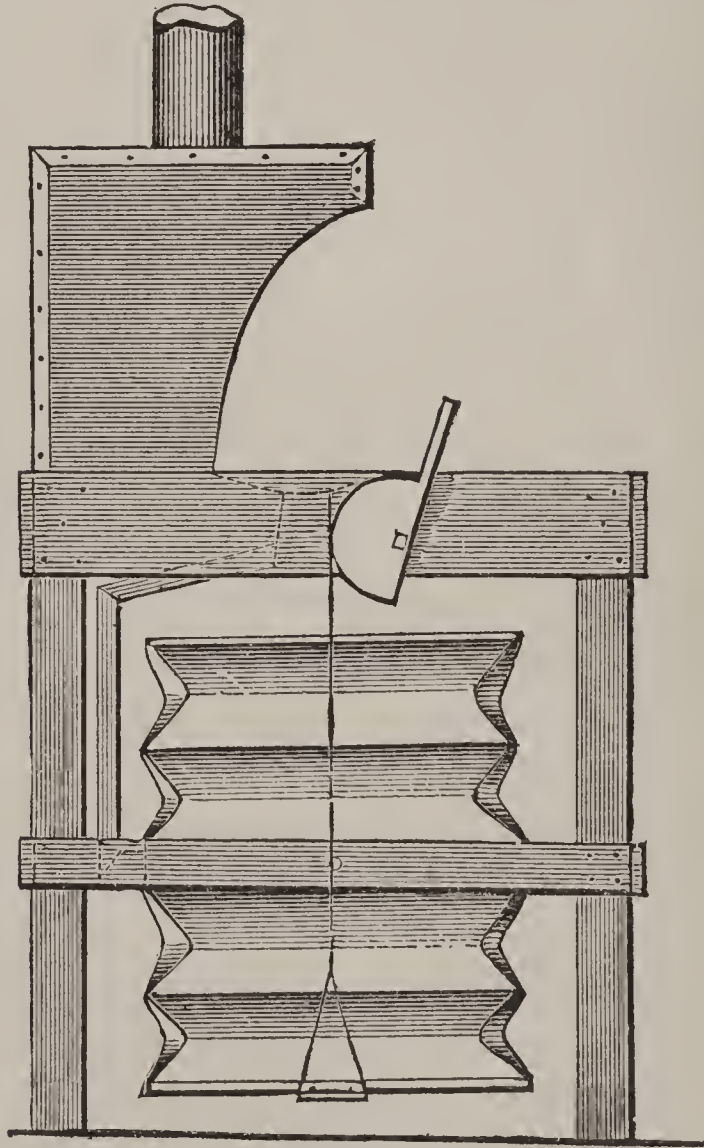

FIGURE 16.
*Portable Forge.*—The following description of a “home made” portable forge shown in Fig. 16 is given by a contributor to the *Blacksmith and Wheelwright*: “In size it is two feet square and three feet high; it is made entirely of wood; the bellows are round and are sixteen and a half inches in size, covered then with the best sheep skins. The bed of the forge consists of a box six inches deep. It is supported by corner posts, all as shown in the sketch. Through the centre of the bottom is a hole six inches in diameter for the tuyere; this is three inches in outside diameter, and is six inches high.